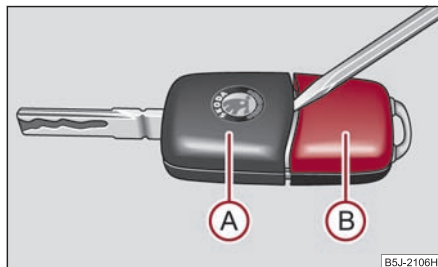

Fig. 33 Disconnect key with radio remote control
Each remote control key contains a battery which is housed in the cover (B) of the transmitter housing ⇒ fig. 33. We recommend having the battery of the key replaced by a specialist garage. You should, however, proceed as follows if you wish to replace the battery yourself:
- Use a screwdriver to carefully lever off the front part of the key (A) ⇒ fig. 33 from the transmitter housing (B).